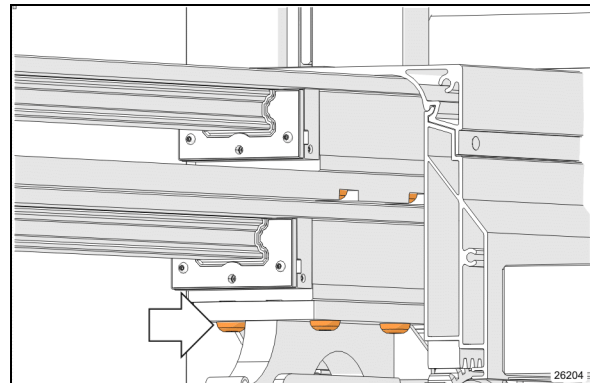

FIGURE 47: LOWER CARRIAGE MOUNTING SCREWS
4. Remove the lower carriage mounting screws. (Figure 47)
13. Re install the lower carriage mounting screws. (Figure 47).